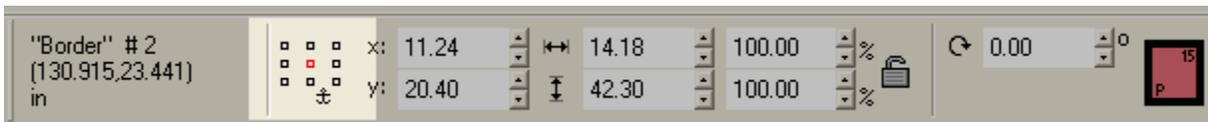

Fig. 67 - Click the center nub, so that scaling will be performed with respect to the center nub.
3. In the SmartBar, locate the **Current Nub** controls and click the center nub (Fig. 67). For the border, this means that scaling the border will keep it centered on its original location.